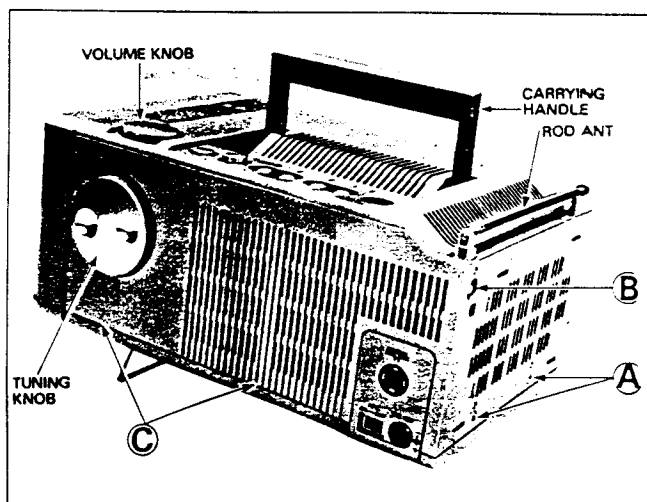
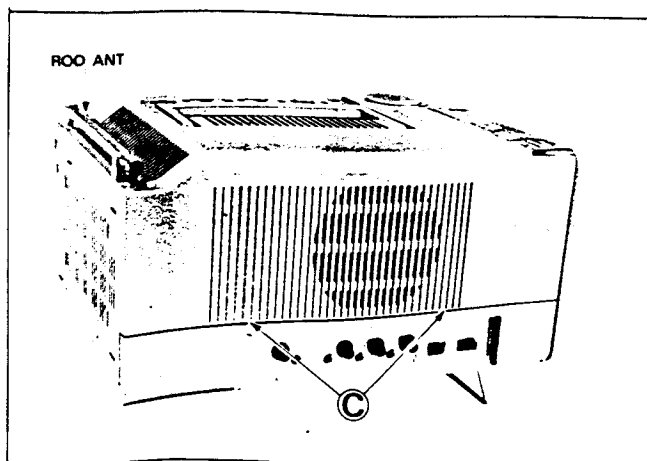

Fig. 5-1
Fig. 5-2
2. Remove the two screws (A) in Fig. 5-1 and the one screw (B), and then rod antenna.
3. The top cabinet is demountable by lifting it upward while pressing the locked points (C) [Fig. 5-1, Fig. 5-2].